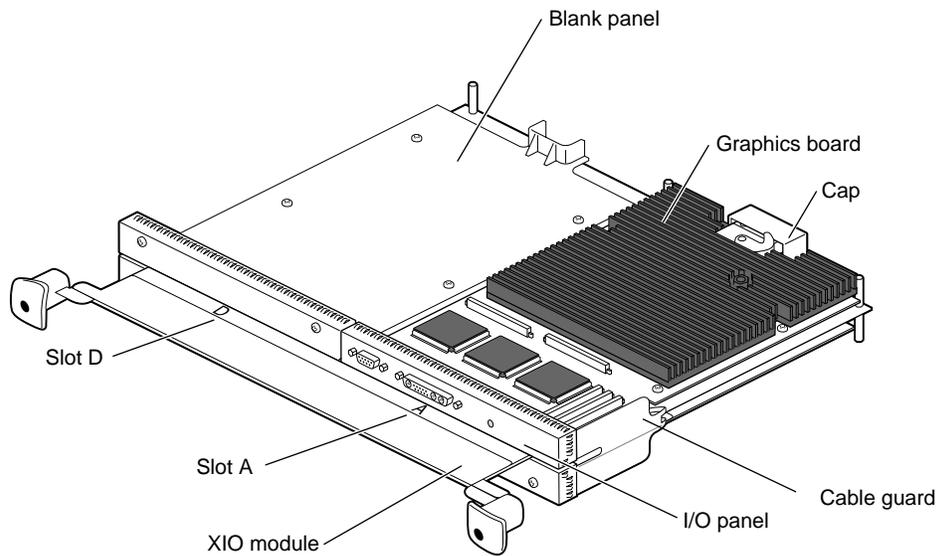

Figure 2-11 Identifying the Slots Used by an XIO Board
Graphics boards may be in one slot (A) or two (D and A). Figure 2-11 shows the OCTANE/SI graphics board in Slot A.